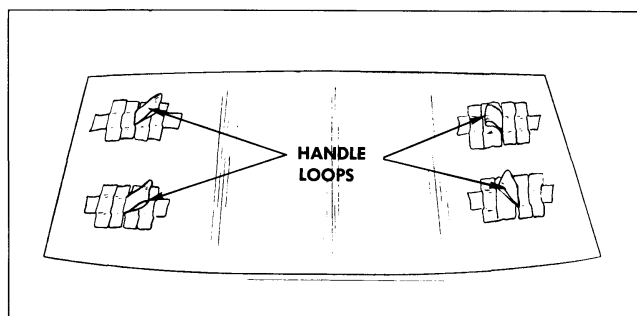

Fig. 14-5 Tape Handles Applied
5. Attach glass handling suction cups to outside surface of glass. If cups are not available, make tape handles from pieces of 2 1/2" cloth body tape as described below and illustrated in Fig. 14-5.
c. Apply four 8" pieces of 2-1/2" cloth tape vertically over handle previously applied, two pieces on each side of handle loop (Fig. 14-5).